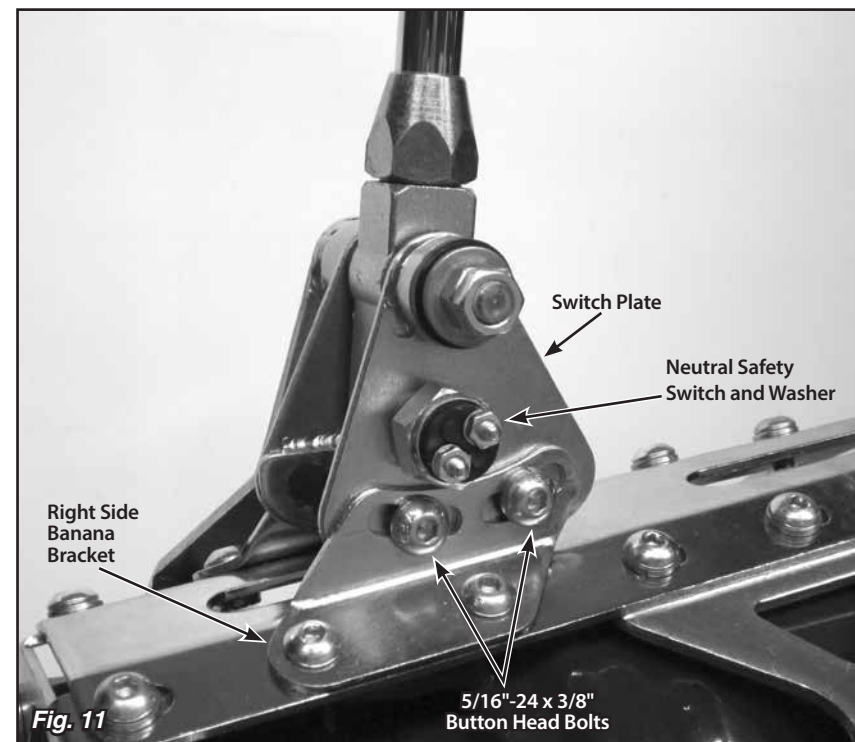

Fig. 11
**Step 17:** Remove the neutral safety switch and washer from the switch plate on the **right** side of the shifter using a 7/8" wrench or socket. **Fig. 11**
**Step 18:** Loosen, but do not remove, the two 5/16"-24 x 3/8" button head bolts that attach the switch plate to the right side banana bracket (the bolts are in curved, slotted holes). **Fig. 11**